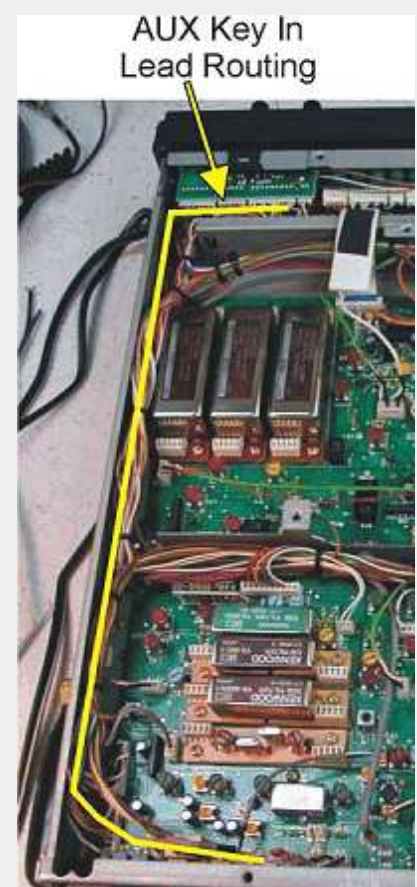

Figure 3
12. Refer to Figure 3, and route the free end of the Key In lead along the side of the chassis, to the rear of the chassis. As you pass the tie-wraps which secure the other wires into bundles, take time to pass this Key In lead through the tie-wraps as well.